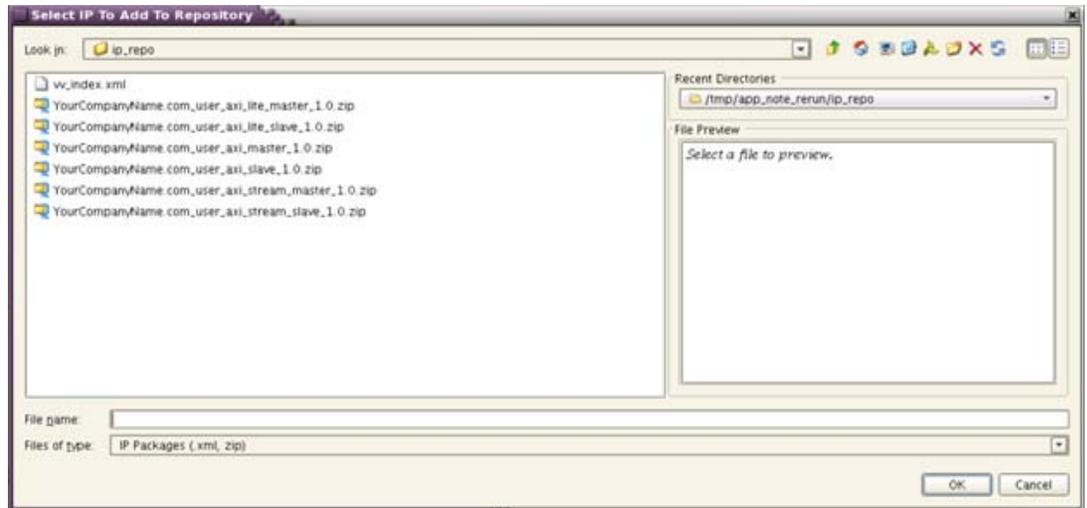

Figure 30: Select IP To Add To Repository Selecting AXI4-Lite Master
7. In the Select IP To Add To Repository window, select `YourCompanyName.com_user_axi_lite_master_1.0.zip` and click **OK** (Figure 30). This extracts the archived ZIP file into a usable form in `<design_dir>/ip_repo`.